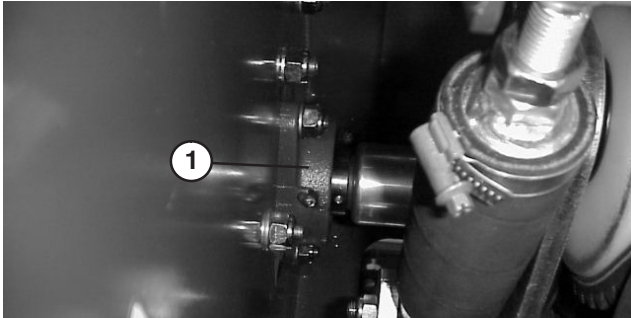

Figure 35
9. Loosen bearing set screws (Fig. 35).